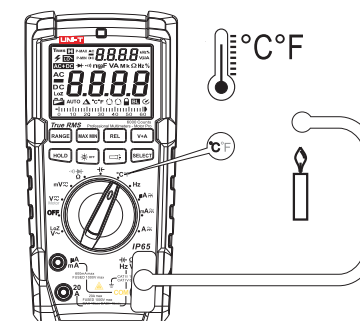

Figure 7
10. Temperature Measurement (Only for UT195M) (See Figure 7)